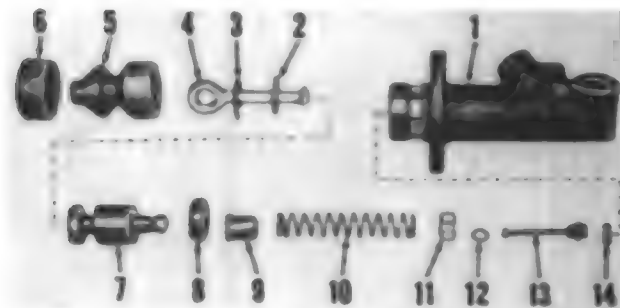

Fig. 156 - Exploded view of brake master cylinder.
**124 OVERHAUL MASTER CYLINDER.** With master cylinder removed, refer to Fig. 156 and remove boot (5) and snap ring (3). Remove plunger (7), seal (8) and all other internal parts (9